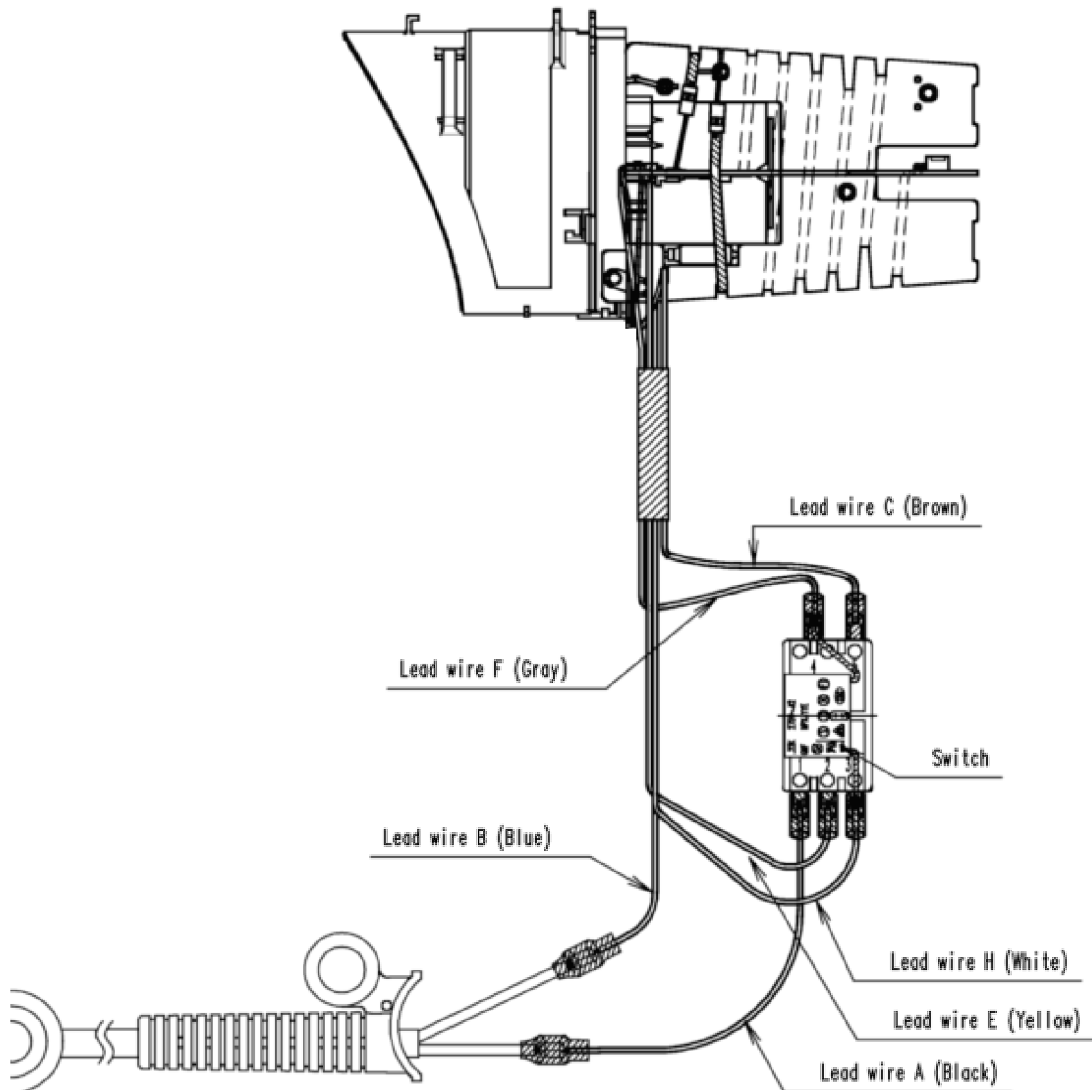

Figure 13
2. Connecting and soldering Motor heater block with Main switch as figure 13.